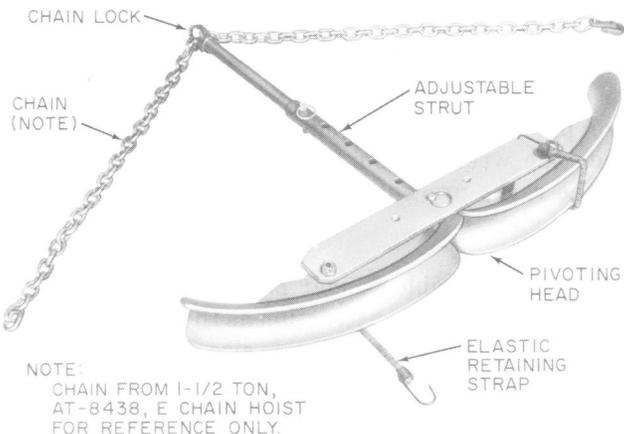

Fig. 3—G Slack Puller
2.04 The G slack puller (Fig. 3) is about 36 inches long, 3-1/2 inches wide and, with the strut adjusted to its shortest length, 22-1/2 inches high. It consists of an aluminum frame with two pivoting aluminum shoes, an adjustable length strut to accommodate variations in manhole width, and a chain lock to hold the chain of an E chain hoist, which is required to operate the G slack puller. Two heavy-duty elastic bands are provided to aid in positioning the slack puller on the cable.